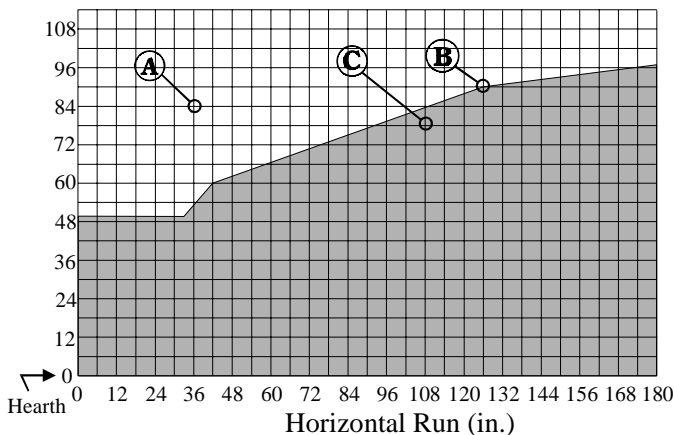

Figure 18a. C38-DV Rear Vent Venting Graph
- your vent run must fall within the limits set by Figure 18a
Measure the vertical height from the fireplace hearth to the centre of the termination and the horizontal run from the fireplace flue collar to the wall flange of the termination. Plot on the Venting Graph (Fig. 18a) with an 'X'.
Venting runs *must* fall within the limits set by the venting graph (see Figure 18a).